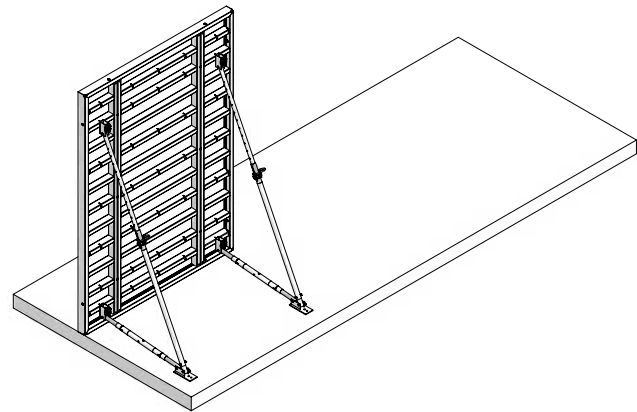

Fig. 63.1
2. Place the first panel and immediately attach it to the ground or concrete slab with two brace frames to prevent it falling over (Fig. 63.1). The foot plate must be firmly connected to the ground or concrete slab – in earth with two ground pegs, in concrete with two heavy-duty dowels.